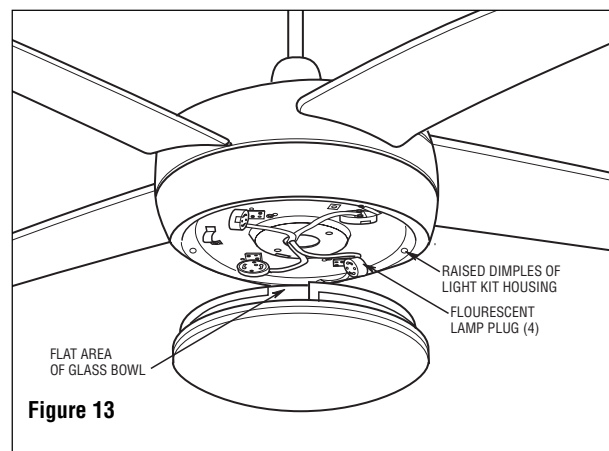

Figure 13
3. Place the glass bowl into the opening in the lower housing assembly, aligning the three flat areas on the top edge of the glass with the three raised dimples on the lower housing assembly and turn the glass bowl clockwise until it stops (Figure 13).